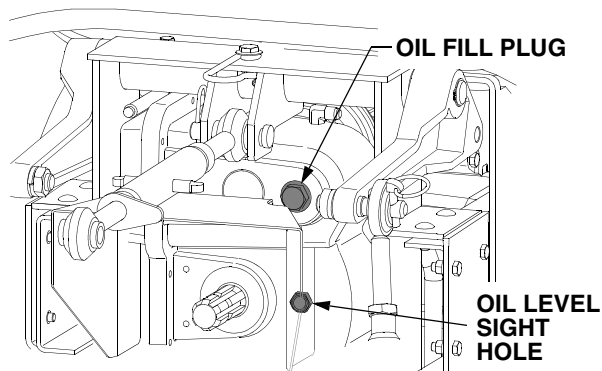
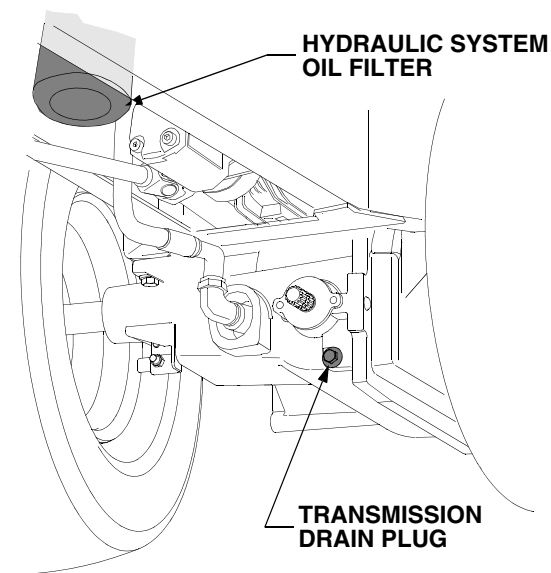

Figure 42
Figure 44
The oil level sight glass is located in the rear of the transmission housing, just to the right of the rear PTO shaft. Refer to Figure 42.
- Locate the oil fill plug on the upper right of the rear of the transmission housing. See Figure 42.
- The hydraulic system oil filter is remotely mounted in the vertical position between the tractor frame rails. See Figure 44.
- Position a suitable container below the hydraulic system filter. See Figure 44.
- Clean the area around the transmission fill plug to prevent debris from entering the transmission (Refer to Figure 42) and remove the plug.
- Clean the area around the transmission drain plug and the oil fill plug to prevent debris from entering the transmission. Refer to Figure 42 and Figure 44.
- Remove the oil fill plug to help vent the transmission, then remove the drain plug and allow the transmission oil to drain into the container(s). Reinstall the drain plug after draining the oil. Refer to Figure 42 and Figure 44.